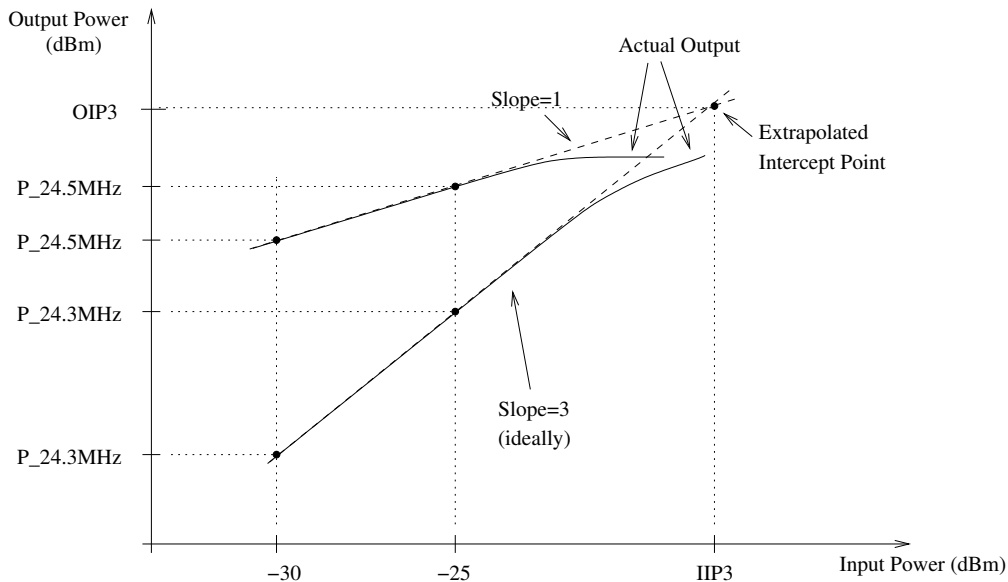

Figure 1: Determining IIP3
The third-order intermodulation terms are the ones of concern to us because they appear close to our desired signal and because they tend to grow more quickly than the 2nd order terms as the input power increases. We can test to see how linear an amplifier is by combining two different tones (that is, two signals of different frequencies) at the input, and measuring the levels of the intermodulation products as we increase the input power signals. In theory, the third order terms will increase 3dB for every 1dB change in input power (On a linear scale, these terms increase as the cube of the input voltage). In reality, however, both the fundamental frequency terms and third order intermodulation terms will slope off at high input powers. An example plot of fundamental and third-order power as a function of the input power is shown in Figure 1. The point at which the output fundamental power falls off by 1dB from the extrapolated power is known as the 1dB compression point. Therefore, when you measure IP₃, you will have to extrapolate the actual value from
4. **Two-Tone Measurement Setup:** Now we will measure the IIP3 and 1-dB Compression Point for this amplifier, and obtain a plot similar to Figure 1. There should be a spectrum analyzer and two function generators set up to do a two-tone test on your amplifier. Ask your TA for help with the set-up.